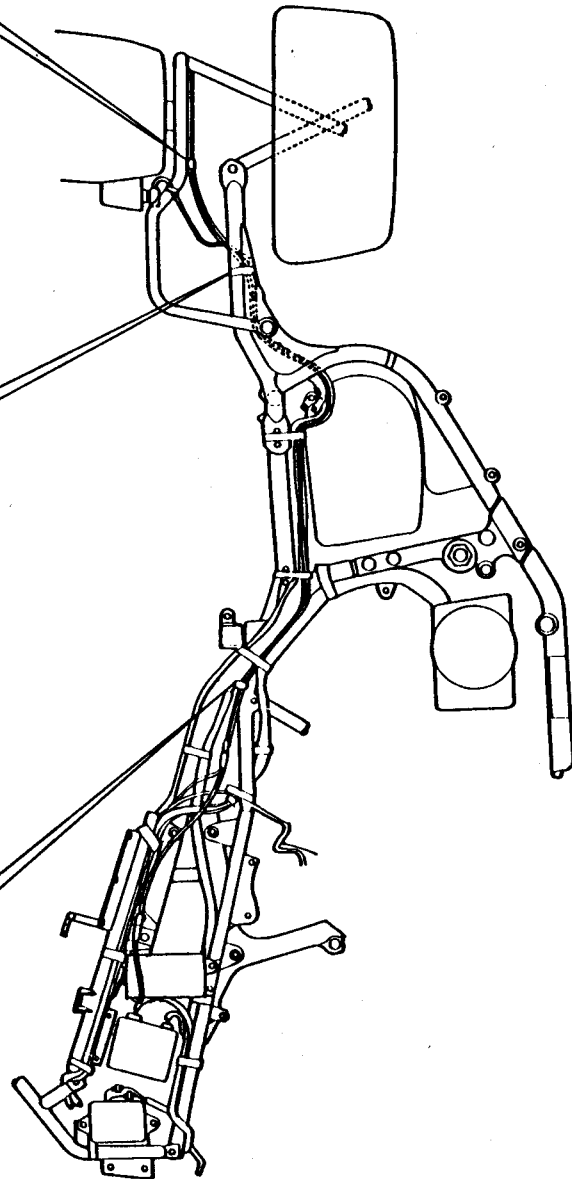

Fig. 18-1
- 3) Clamp the wires at 6 points along the frame as shown in Fig. 18-1.
- 4) Clamp the remainder of the wires as shown in Fig. 18-1.